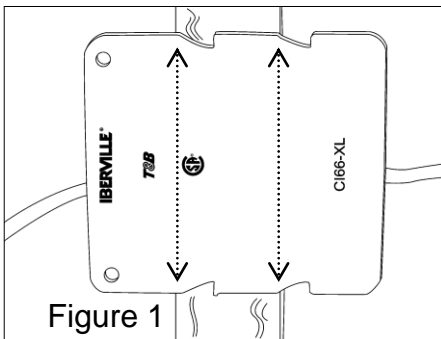
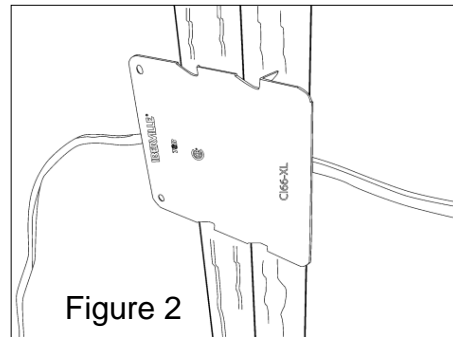

Figure 1
Figure 2
1. Center the protector plate on the stud by using positioning references (Figure 1) and hammer it using the nailing prongs (Figure 2).